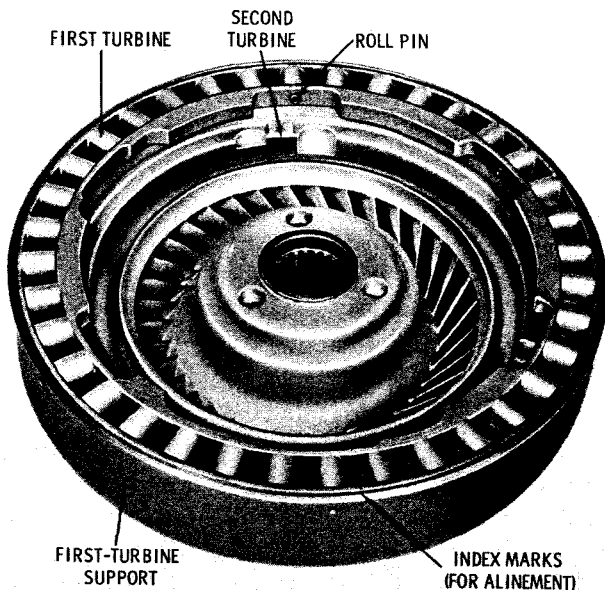

Fig. 6-2. First- and second-turbine assembly S2564
(1) Locate the index marks (V-groove) in the outer rims of the first-turbine support and the first turbine (fig. 6-2). Make sure these marks are well defined in both parts. If the marks are not prominent, deepen them to 0.040 inch (1 mm) (maximum) before continuing with disassembly.
(2) Drive the six roll pins (nine in the 2421 model series) inward toward the hub un-
til they clear the holes in the first-turbine support (fig. 6-2). Remove the roll pins only if replacement is necessary.